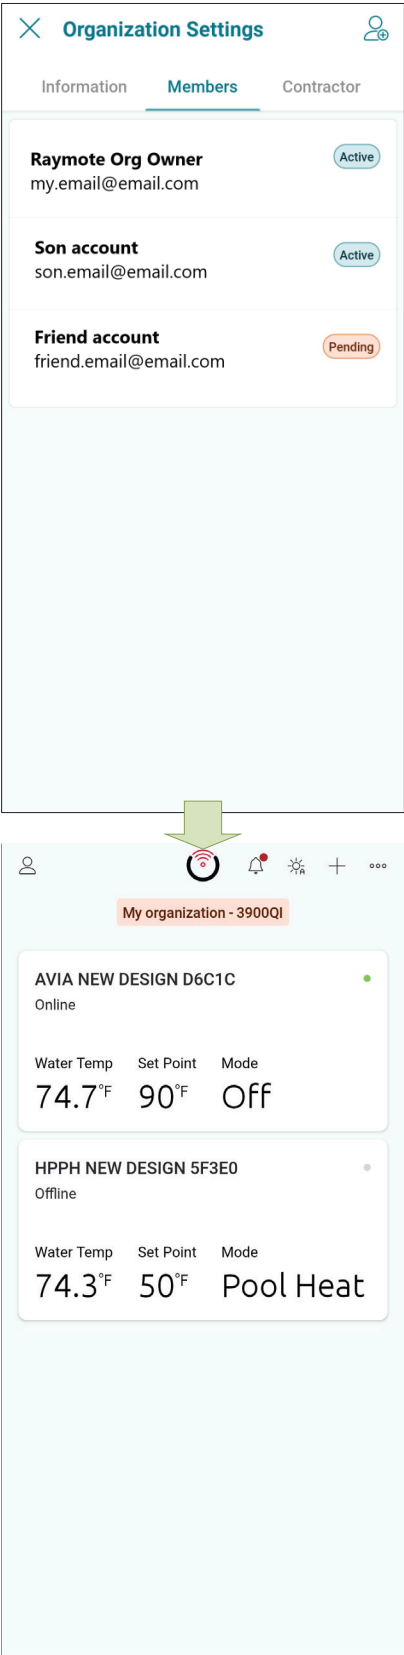

Figure 106. Organization Members Share Access to Heaters
• As the Organization owner, you can add members of your family, friends and others that will be able to interact with your heaters. See **Figure 106**.